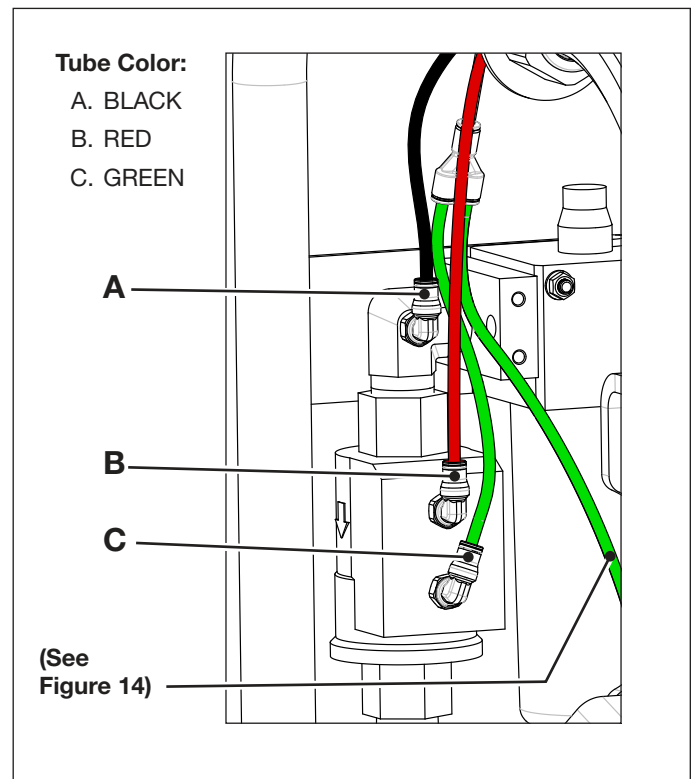
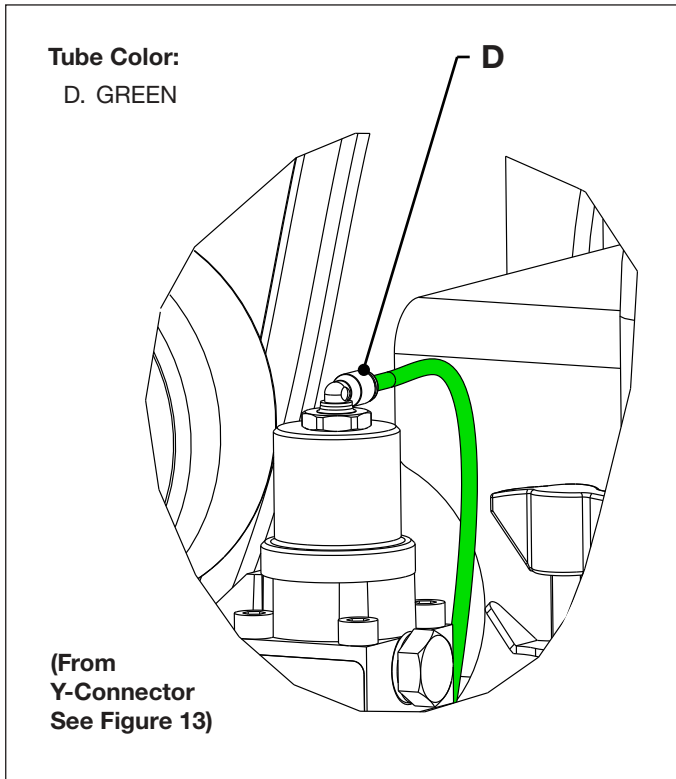

Figure 13: Air Tube Connections - Air Logic Control Valve.
Figure 14: Air Tube Connection - Hyd. Control Valve
3. Disconnect pump air tubes at locations "A", "B", "C" and "D" as shown in Figure 13 and Figure 14.
23. Reconnect the pump air tubes at locations “A”, “B”, “C” and “D”. See Figure 13 and Figure 14.